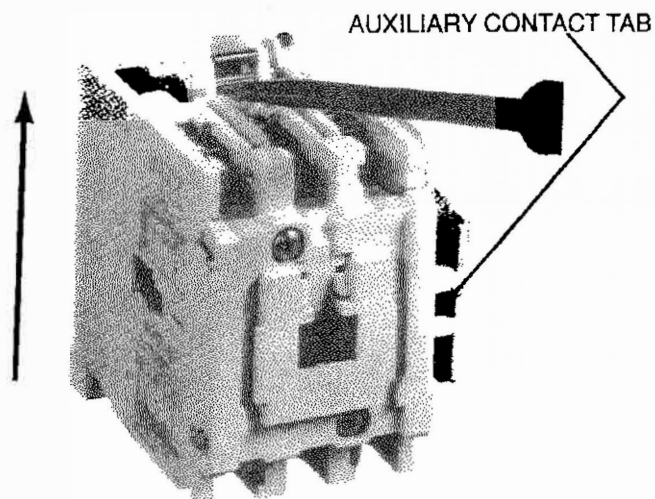

Figure 1
### MAIN COIL RENEWAL (Figures 1 & 2)
2. Remove auxiliary contacts (if used), by pulling side contact tab away from contactor and lifting from side of contactor. See Fig. 1. (It is not necessary to remove auxiliary contact if unwired.)
3. Insert screwdriver beneath the retaining clip of the contactor and pry off from the upper housing. See Fig. 1.
5. Remove upper housing, Item 13, from lower housing, Item 2, by evenly pushing the housing to unhinge the housing while lifting up 1/4 inch in the direction of the arrow. See Fig. 1. (Refer to Page 3 for parts referenced in this step.)